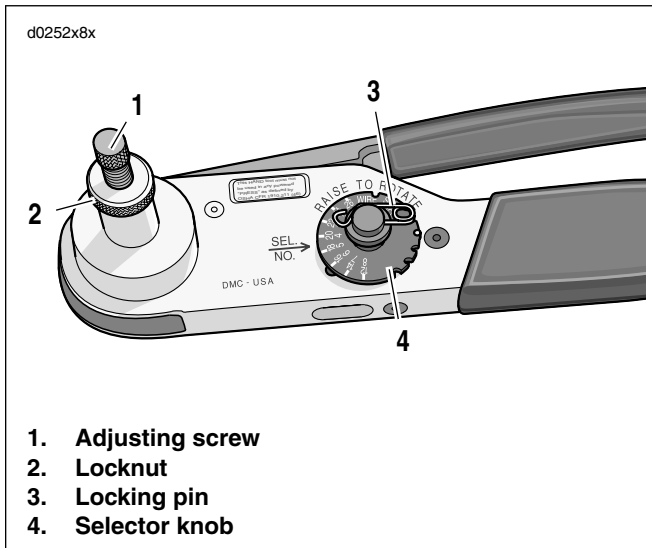

Figure B-14. Deutsch Solid Barrel Contact Crimp Tool
2. See Figure B-14. Remove locking pin (3) from selector knob (4).